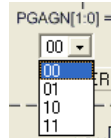

Figure 43
- (1) Click the specified network by mouse, 4 switches are shown as Figure 43.